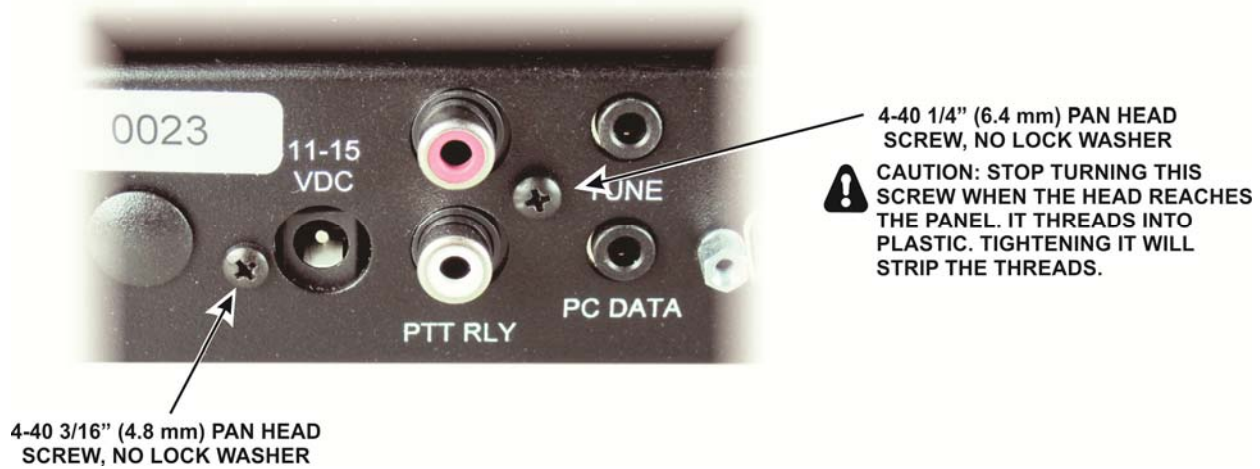

Figure 24. Installing Rear Panel Pan Head Screws.
- ☐ Install the two pan head screws shown in Figure 24. **Stop turning the screw indicated when the head reaches the rear panel. It threads into plastic and the threads will easily strip.**